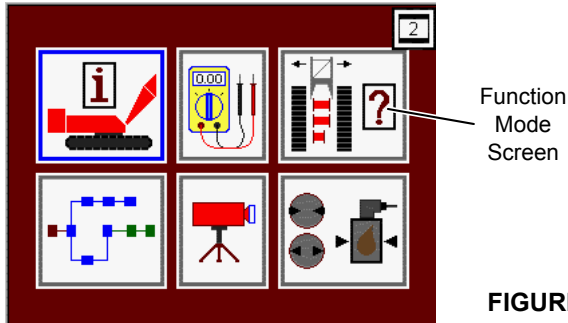

FIGURE 3-27
1. Enter the function mode screen in the main display (Figure 3-27).